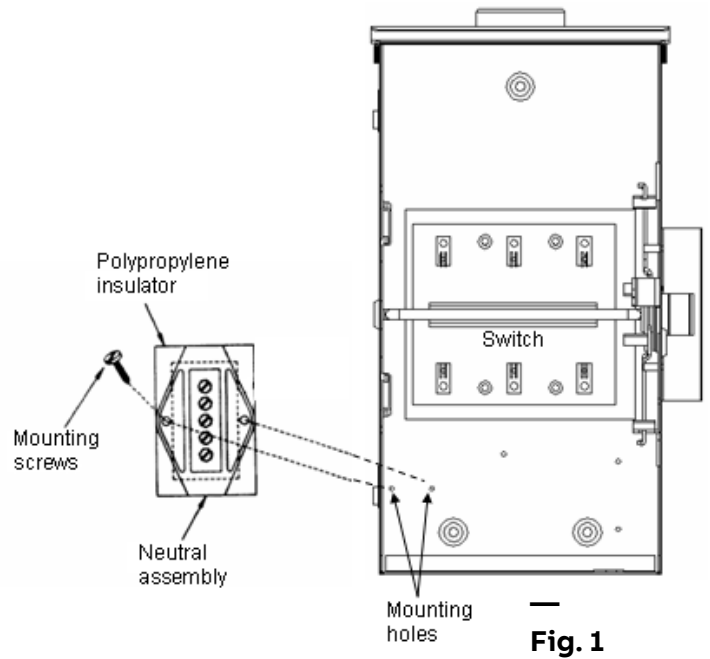

Fig. 1
1. Tighten mounting screws in to mounting hole in the enclosure ensuring item 3 (insulator) beneath neutral assembly Ref. Fig 1.